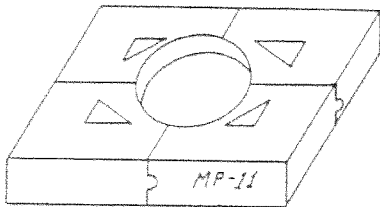

FIG. 1
8. Place mortar on tops of fourth row of liners and press four banded MP-1 top liners in place, flat side up (Fig. 1).